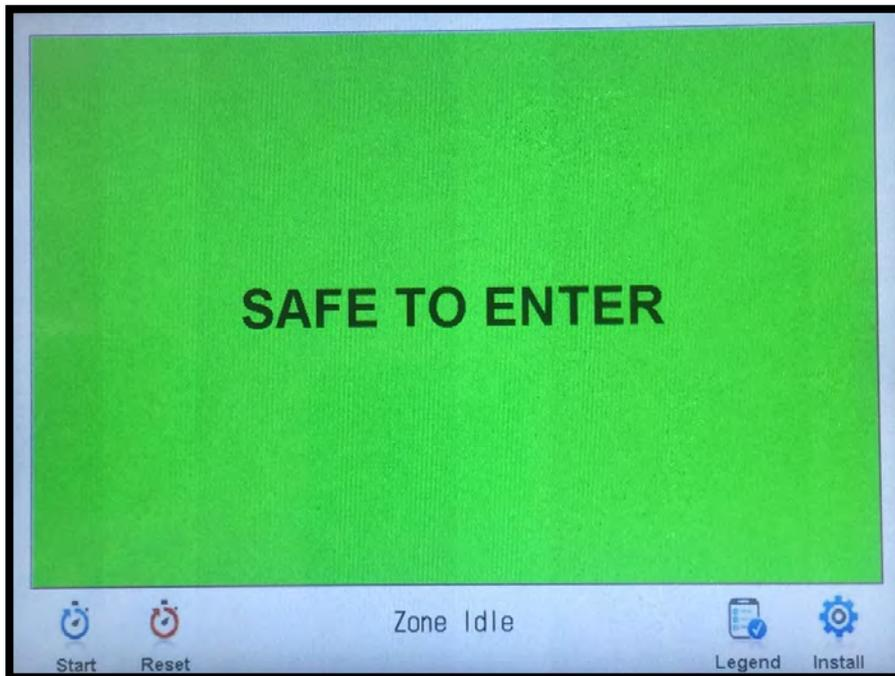

FIGURE 12
4.4.7 Upon pressing “Reset”, the Touchscreen Controller will return to the green “SAFE TO ENTER” screen. At this point, operation of the mRDS can resume (Figure 12).